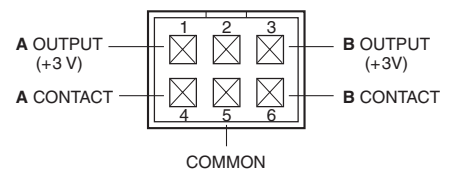

Figure 4:
2. Use an Amphenol 65846-015LF shell and 47715-000LF contacts to make the connection to Connector J3, which provides the contact closure input and detects the output of the position sensor. (See **Figure 4** and **Table 2**.)